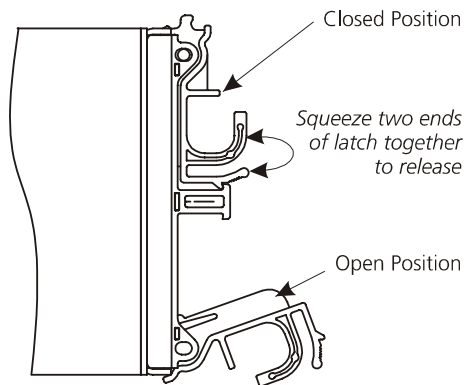

Figure 2-11 Controller Module Latch Operation
- 2 With the latch in the open position (see Figure 2-11), slide the Controller module into the enclosure until the latch engages automatically.